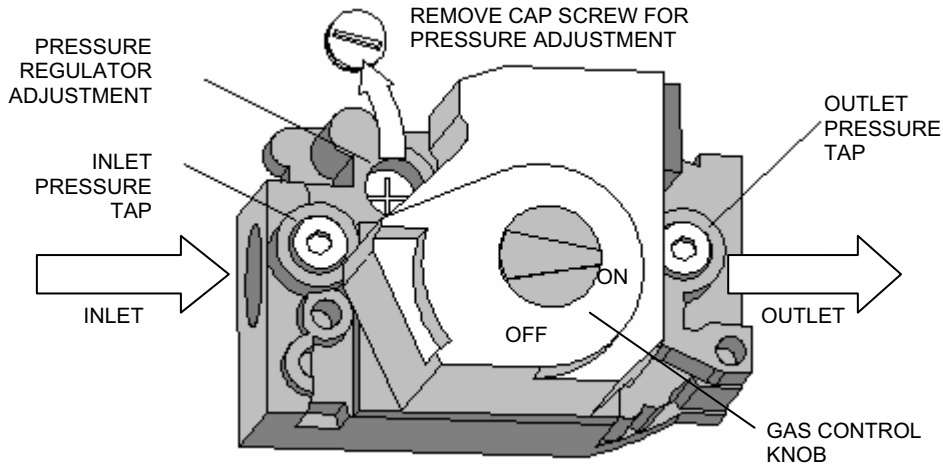

Figure 32 - Gas valve (SIT 830) of the appliance.
On each unit, proceed as follows, referring to the parameters indicated in Table 21 on page 72 and to the Figure 32 on page 72:
1. Unscrew the fixing screw of the gas pressure intake (detail B in Figure 32 on page 72).
7. With gas valve closed, unscrew the fixing screw of the gas pressure outlet (detail C, Figure 32 on page 72).
- keep the burner lit and the manometer connected; remove the protective cap of screw A (detail A, Figure 32);
- turn screw A of the gas valve (detail A, Figure 32), clockwise to increase the pressure or anticlockwise to decrease it, until the pressure indicated in Table 21 is reached;
16. Remove the manometer and retighten the fixing screw of the gas pressure outlet (detail C, Figure 32).